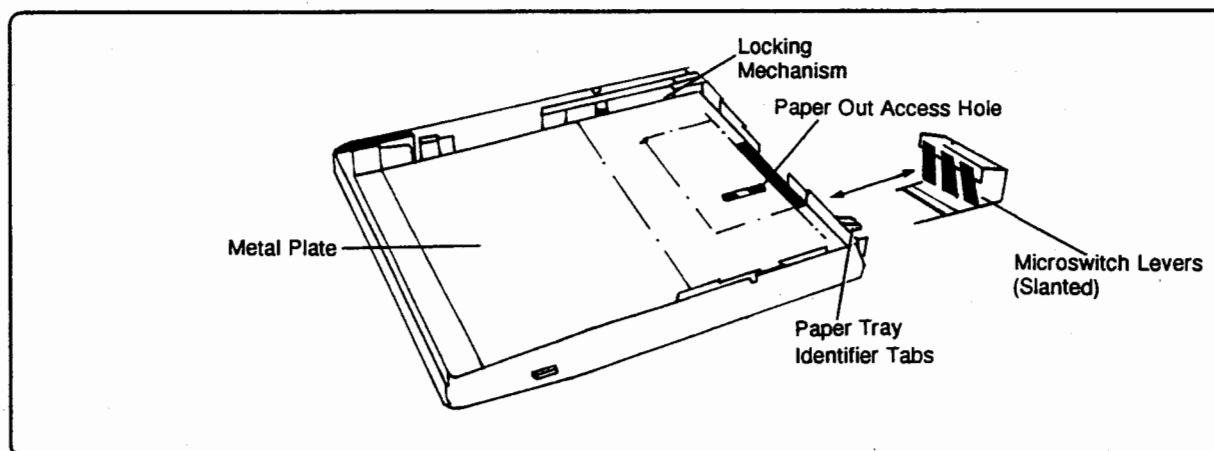

Figure 7-9. Paper Tray
6. Are any of the tray identifier protrusions broken?	Examine the tray for damage (refer to Figure 7-9). If any protrusion is broken, replace the tray.
7. Are any of the tray identifier microswitch levers damaged?	Examine the paper tray cavity in the printer for microswitch lever damage (refer to Figure 7-9). If the levers are damaged, replace them.